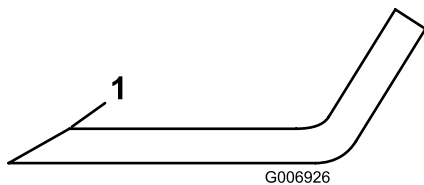

Figure 33
1. Use a file to sharpen the cutting edge at both ends of each blade (Figure 33). Maintain the original angle. The blade retains its balance if you remove the same amount of material from both cutting edges.